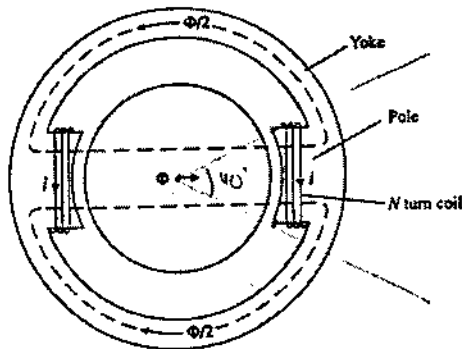
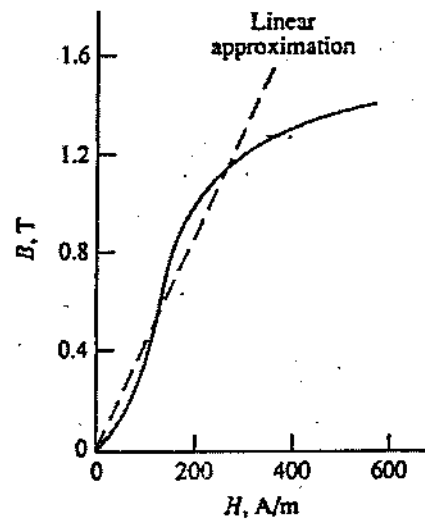

Fig 2.1
Fig 2.2
2. Given a cross-section of a rotating motor, Fig.2.1. The rotor has a radius of 120mm and an axial length of 20mm. Each pole covers an arc of 40° and is of the same axial length as the rotor. The air gap lengths are 1.5mm each. The motor core is made of material represented by the B-H curve of Fig.2.2. Each pole has a coil of 360 turns connected in series. Draw the equivalent magnetic circuit and determine: